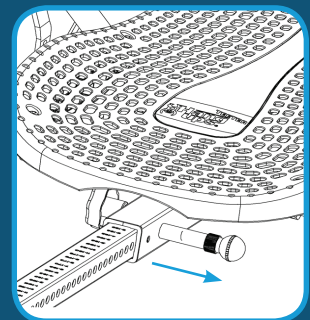

Figure 2
- Pull out the Height Selector Locking Pin with your right hand while sliding the Main Shaft with your left (Figure 2).